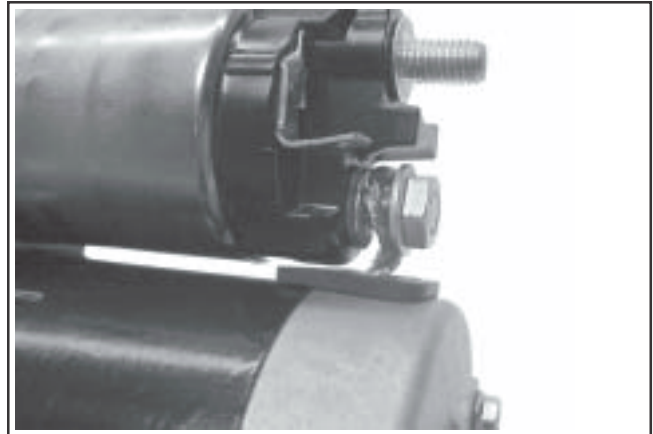

Figure 8-70. Connecting Brush Lead.
14. Connect the braided (brush) lead to lower main solenoid terminal and secure with the loose hex flange nut. See Figure 8-70.